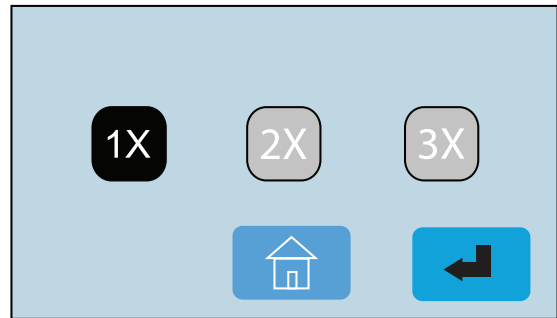

Fig. 36
2. The number of test sheets can be changed to 1, 2, or 3. Press the corresponding test button and then press the enter icon  to save the selection. The chosen icon will be highlighted in black (Fig. 36).